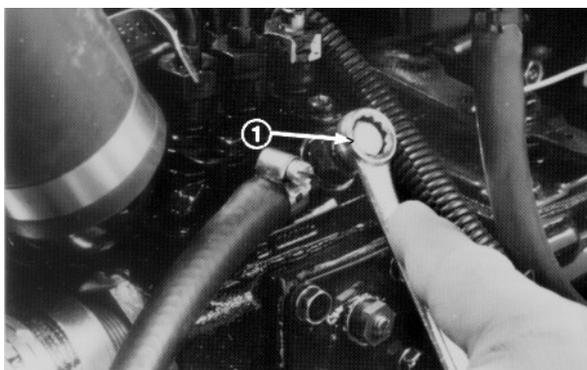

Figure 13
4. Open the air bleed screw on the fuel injection pump (Fig. 13) with a 10 mm wrench.